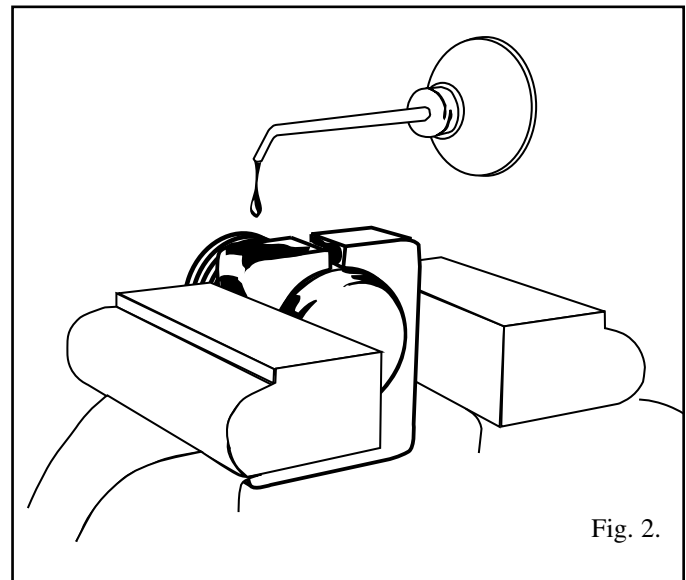

Fig. 2.
1. Place mortise cylinder through holder hole until holder butts against cylinder neck. See Fig. 2.